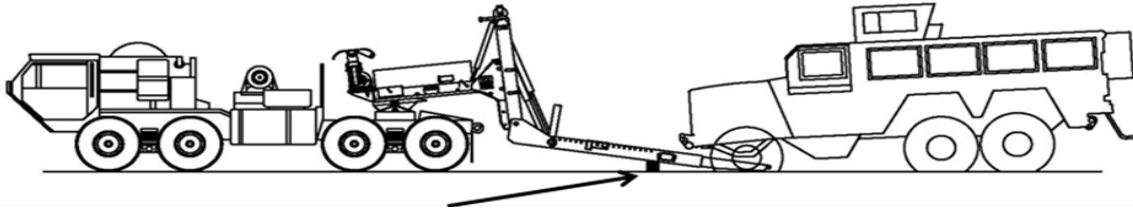

Figure 5 – Insert fulcrum block
6. Place one of the 6 inch blocks under each boom assembly, near the rear boom cross member, to create a fulcrum point. (figure 5)